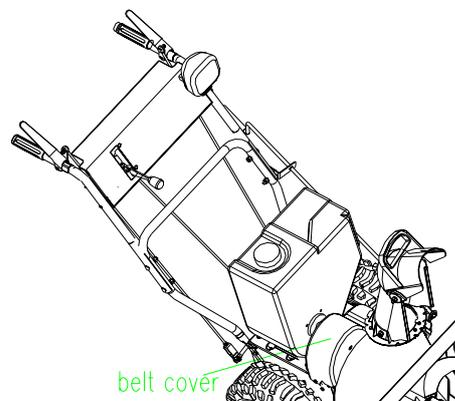

FIG 28
- 6.11.1 Remove the belt cover. (FIG 28)